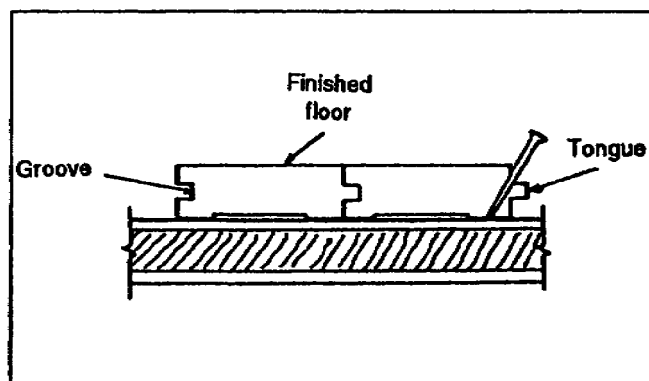

**Figure 1-26. Floor plan**
- a. Select a long straight piece of flooring for the first board. Place this piece of flooring in position with the grooved edge toward the wall (see Figure 1-26). Allow approximately 1/4 inch along the wall for expansion.